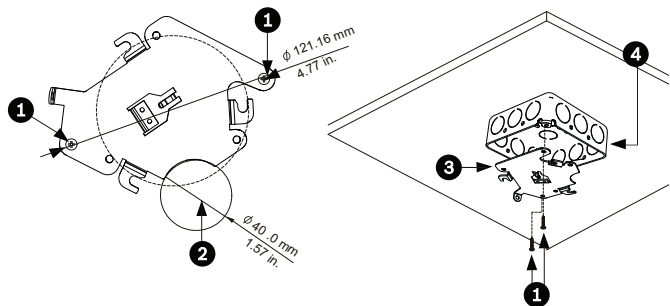

Figure 4.3 Install the Mounting Plate
3. Secure the mounting plate to the junction box with the user supplied hardware (see *Figure 4.3*).
1. Route wires on side of mounting plate with crescent shaped cut-out (Ref. #2 *Figure 4.3*).